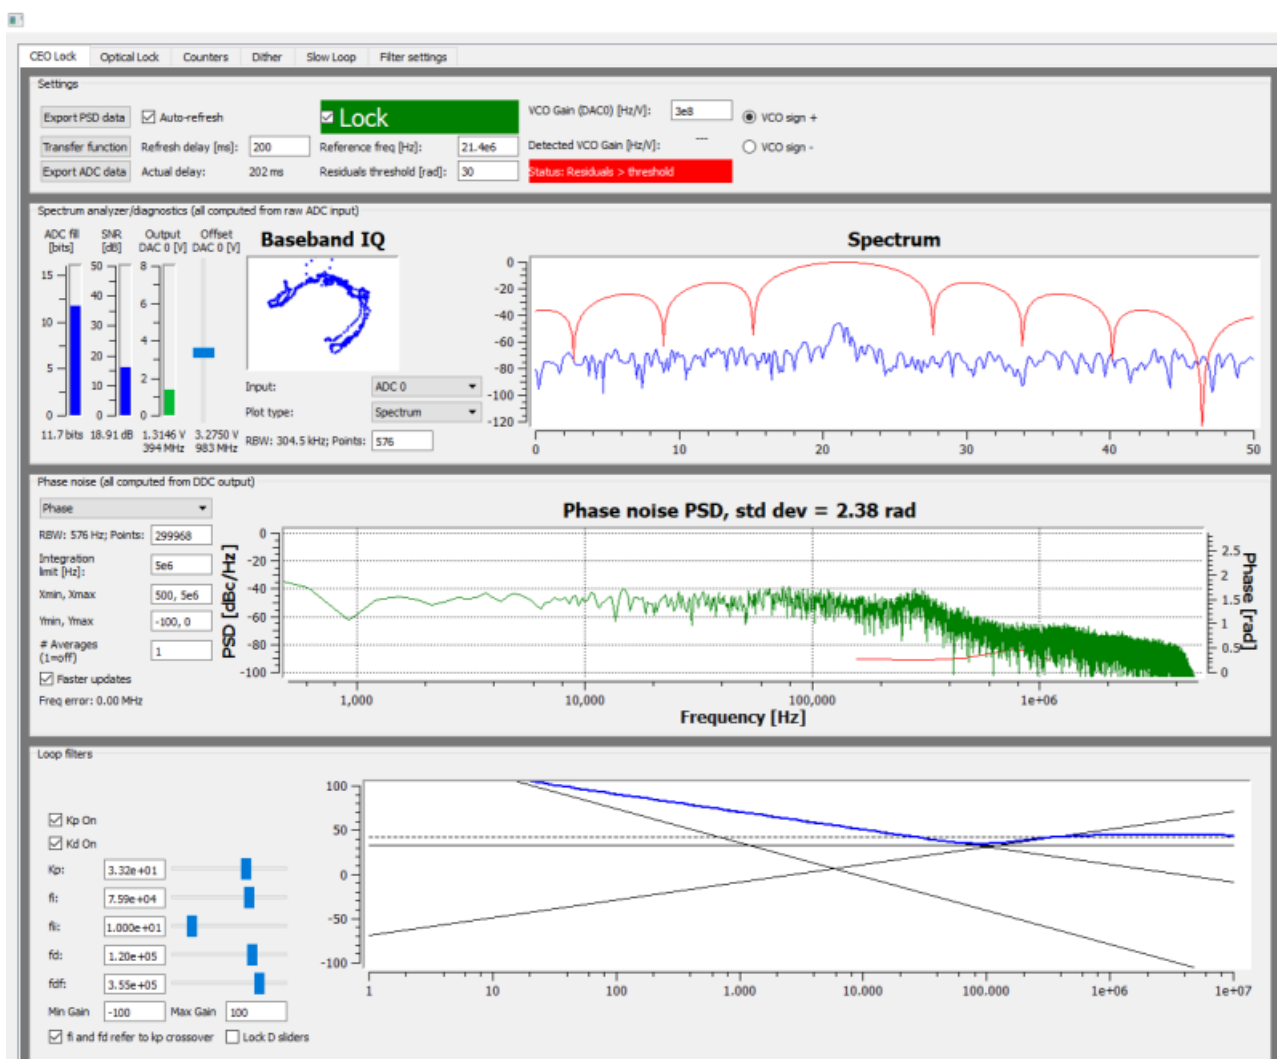

Fig. 6: Locking f(CEO)
- Press the "Lock" button (figure 6, top middle). If the system doesn't lock, change the VCO sign to the opposite polarity (top right) and try again. If the system still won't lock, try lowering the K_p value (bottom left).